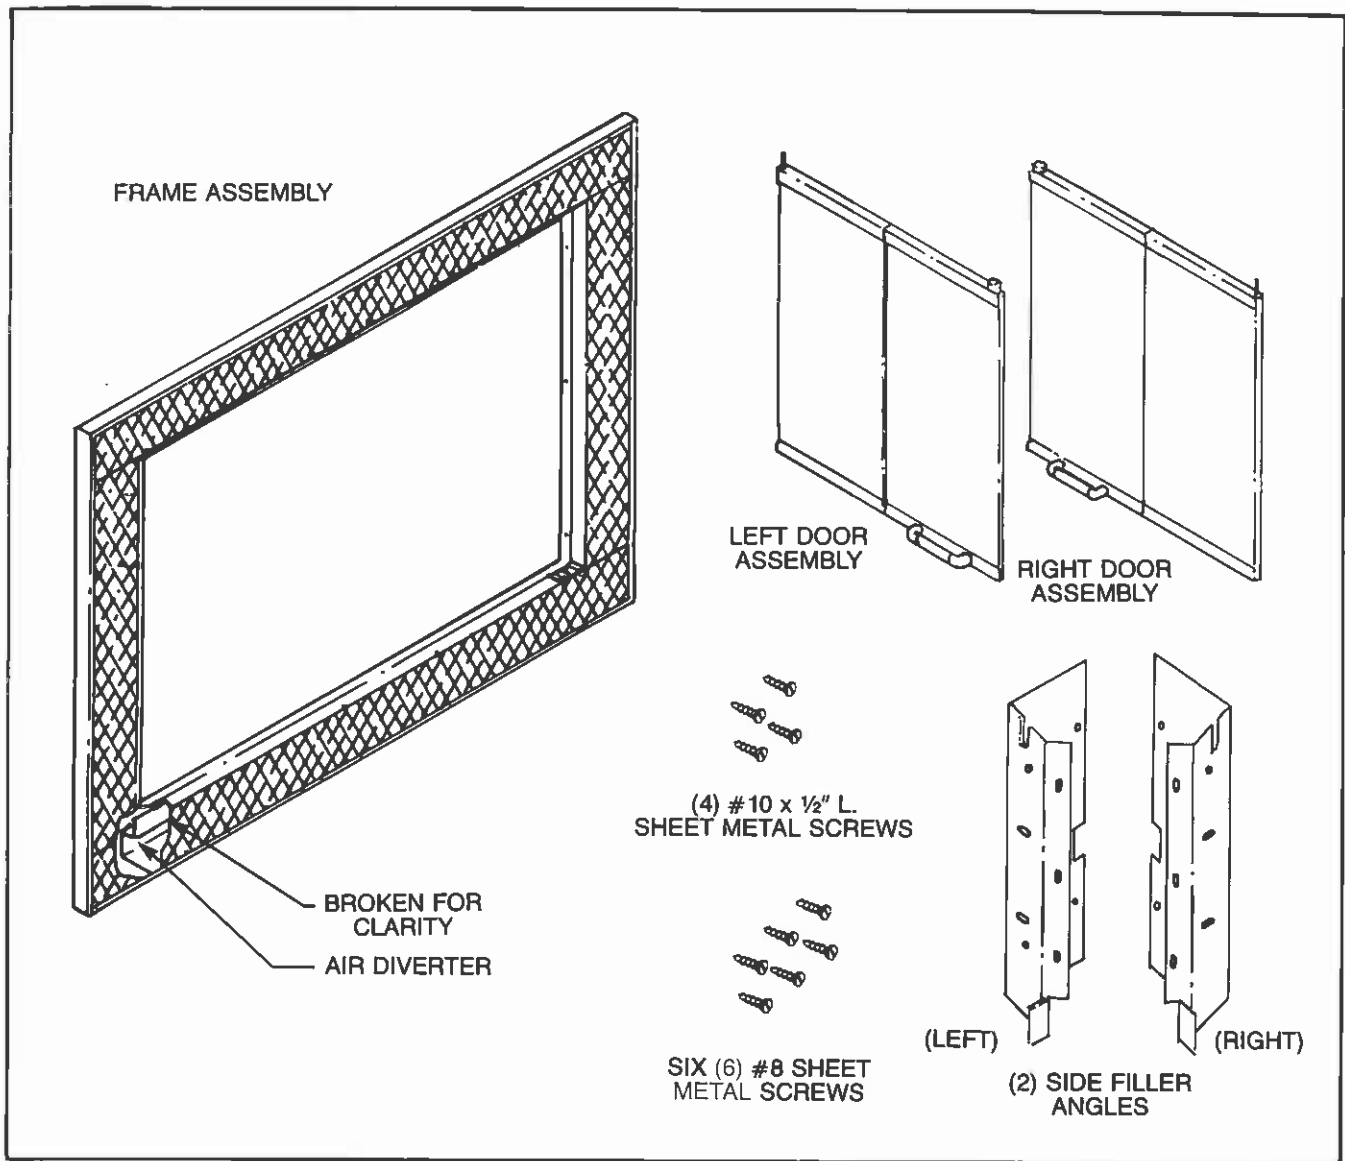
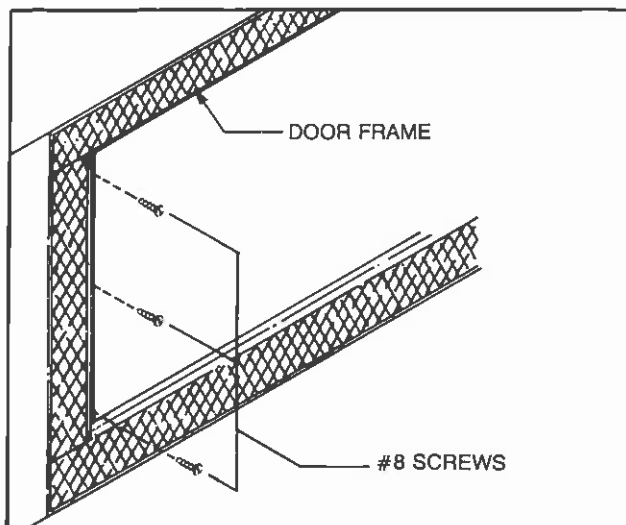

Fig. 1. Contents of shipping carton.
Fig. 4. Mounting door frame.
Compare contents of shipping carton in Fig. 1 with actual parts received. If any parts are missing, or damaged, contact your Majestic Dealer before starting installation. Do not install a damaged glass enclosure kit.
5. You are now ready to mount the frame assembly. Position the frame in the fireplace opening so the air diverter is at the bottom of the frame. Refer to Fig. 1 to identify the air diverter. The frame should be pushed inward until the frame rests against the filler angles installed in Step 3. Now install three (3) #8 screws in each side of the door opening, fastening the frame to the filler. (See Fig. 4).
6. Slide the screens toward the filler angle on each side and fasten to the filler using the clips removed in Step 2. Two (2) clips are used on each side of the fireplace and are installed through the screen into the two (2) oval holes in the filler.